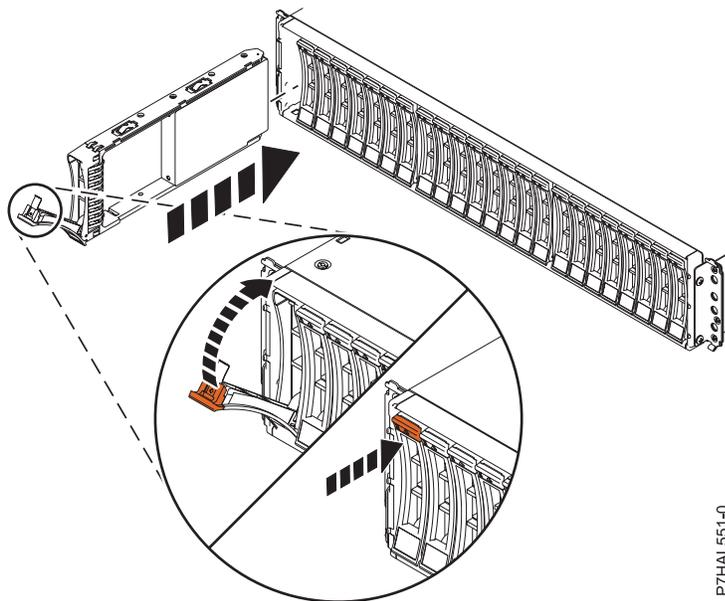

Figure 12. Installing the disk drive in the 58/87 disk drive enclosure
1. With the handle in the unlocked position, as shown in Figure 12 on page 23, support the bottom of the drive as you align it with the guide rails in the expansion unit.